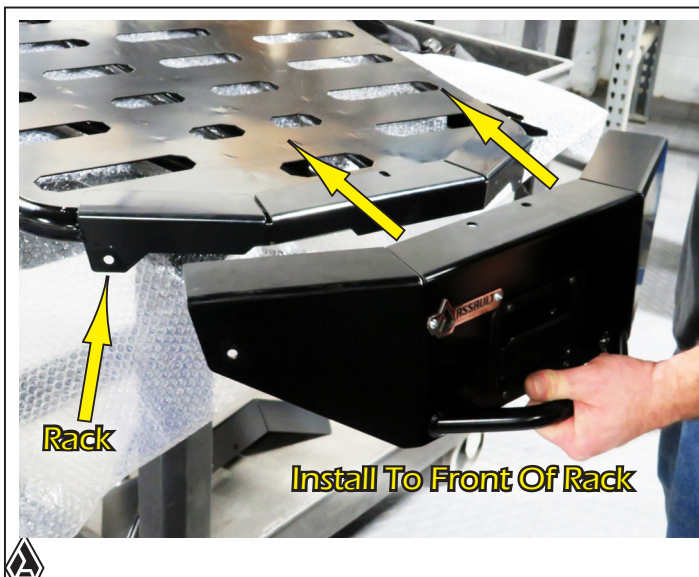
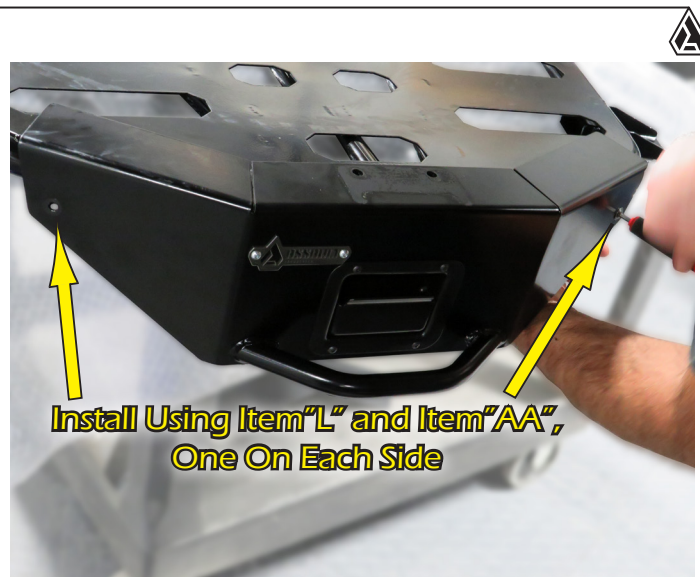

FIG.14A
FIG.14B
14. The next thing to do is mount the **Latch Mount Assembly** to the **Rack**, See **Fig.14a**. You will do this using (2) M6x16, **Item "L"** and (2) M6 Nylock Nuts, **Item "AA"** ,provided in your kit, one in each side as shown in **Fig.14b** and secure.